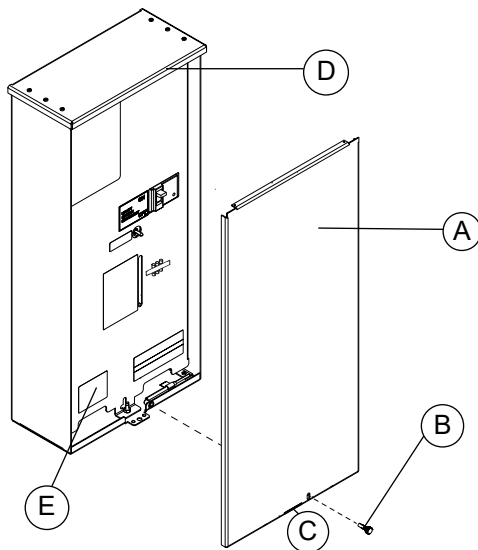

Figure 3-1. Open Enclosure
See Figure 3-1. First, remove outer cover (A):
1. Remove thumb screw (B).
2. Slide slot (C) over retention tab.
3. Lower cover until clear of top flange (D), and pull away from enclosure.
4. Remove inner panel (E).